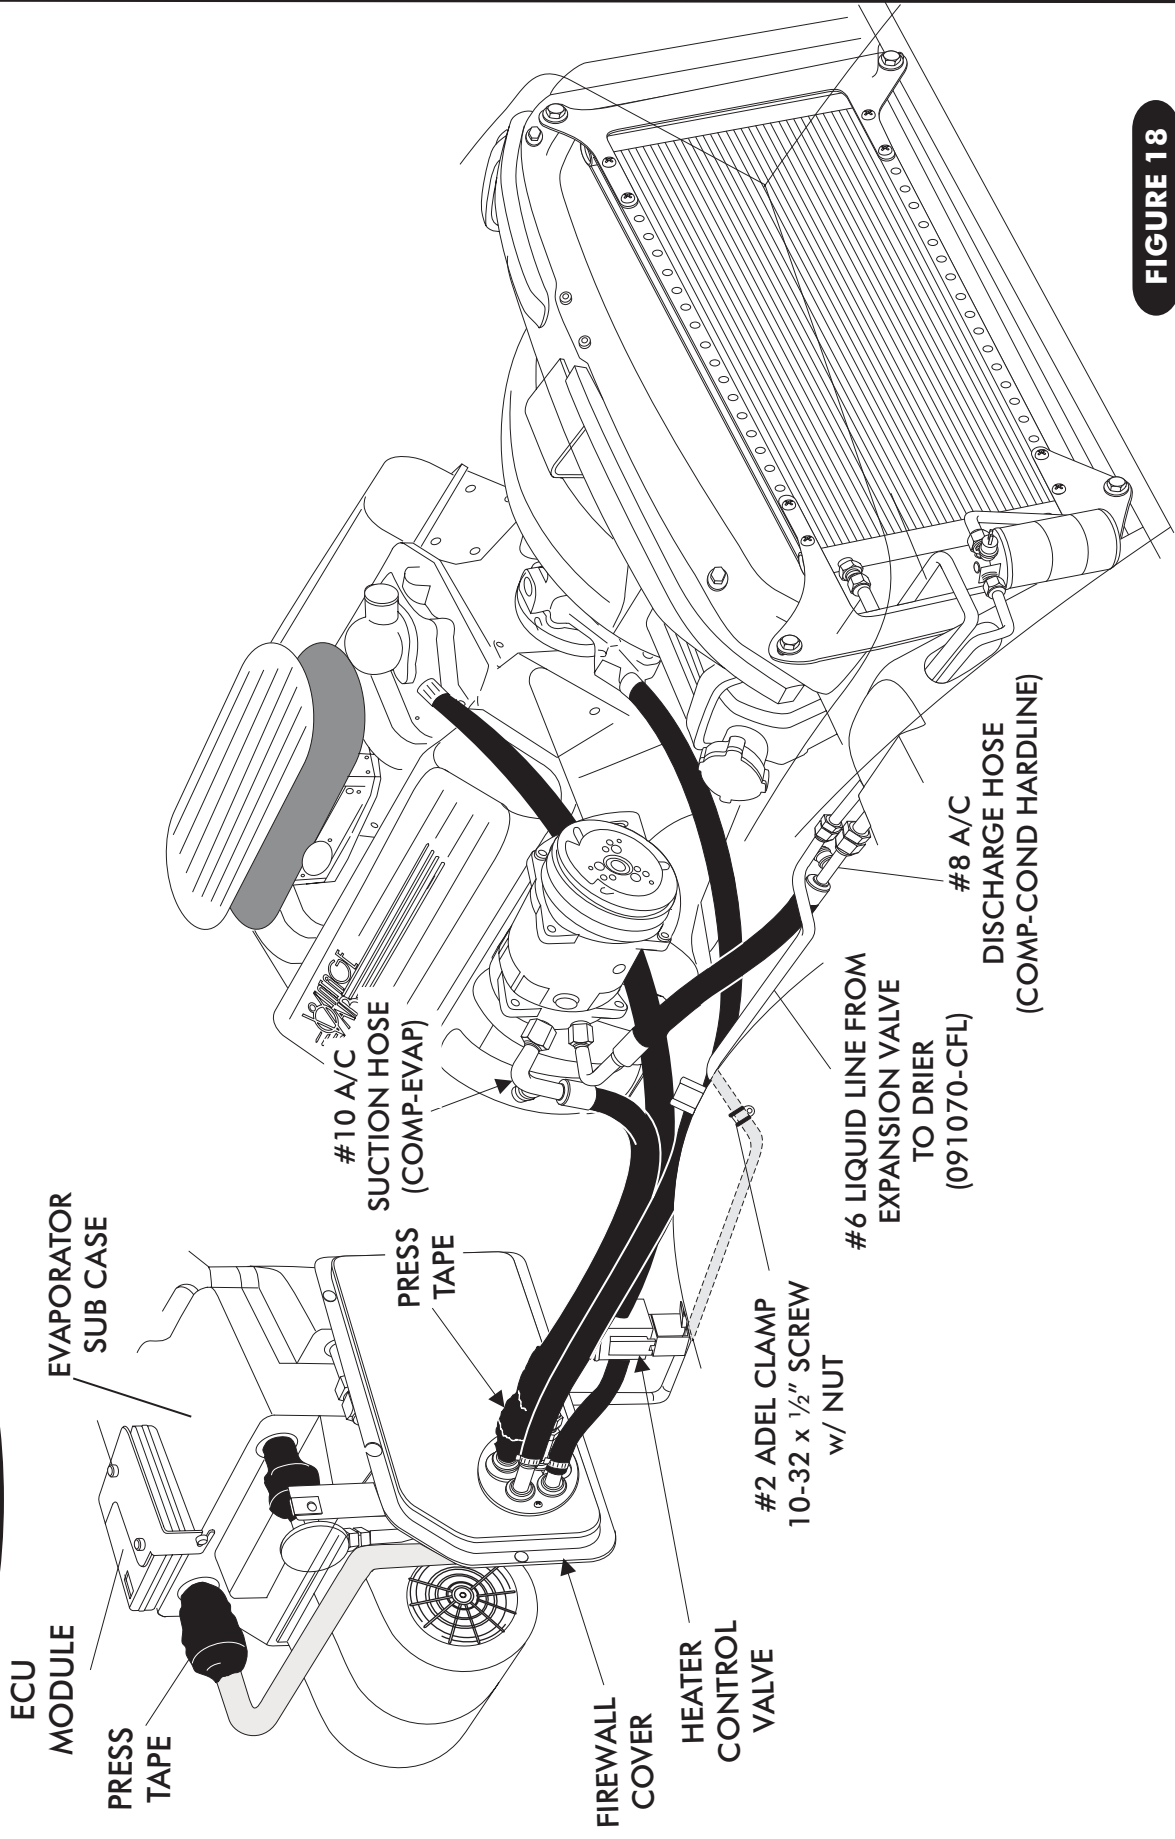
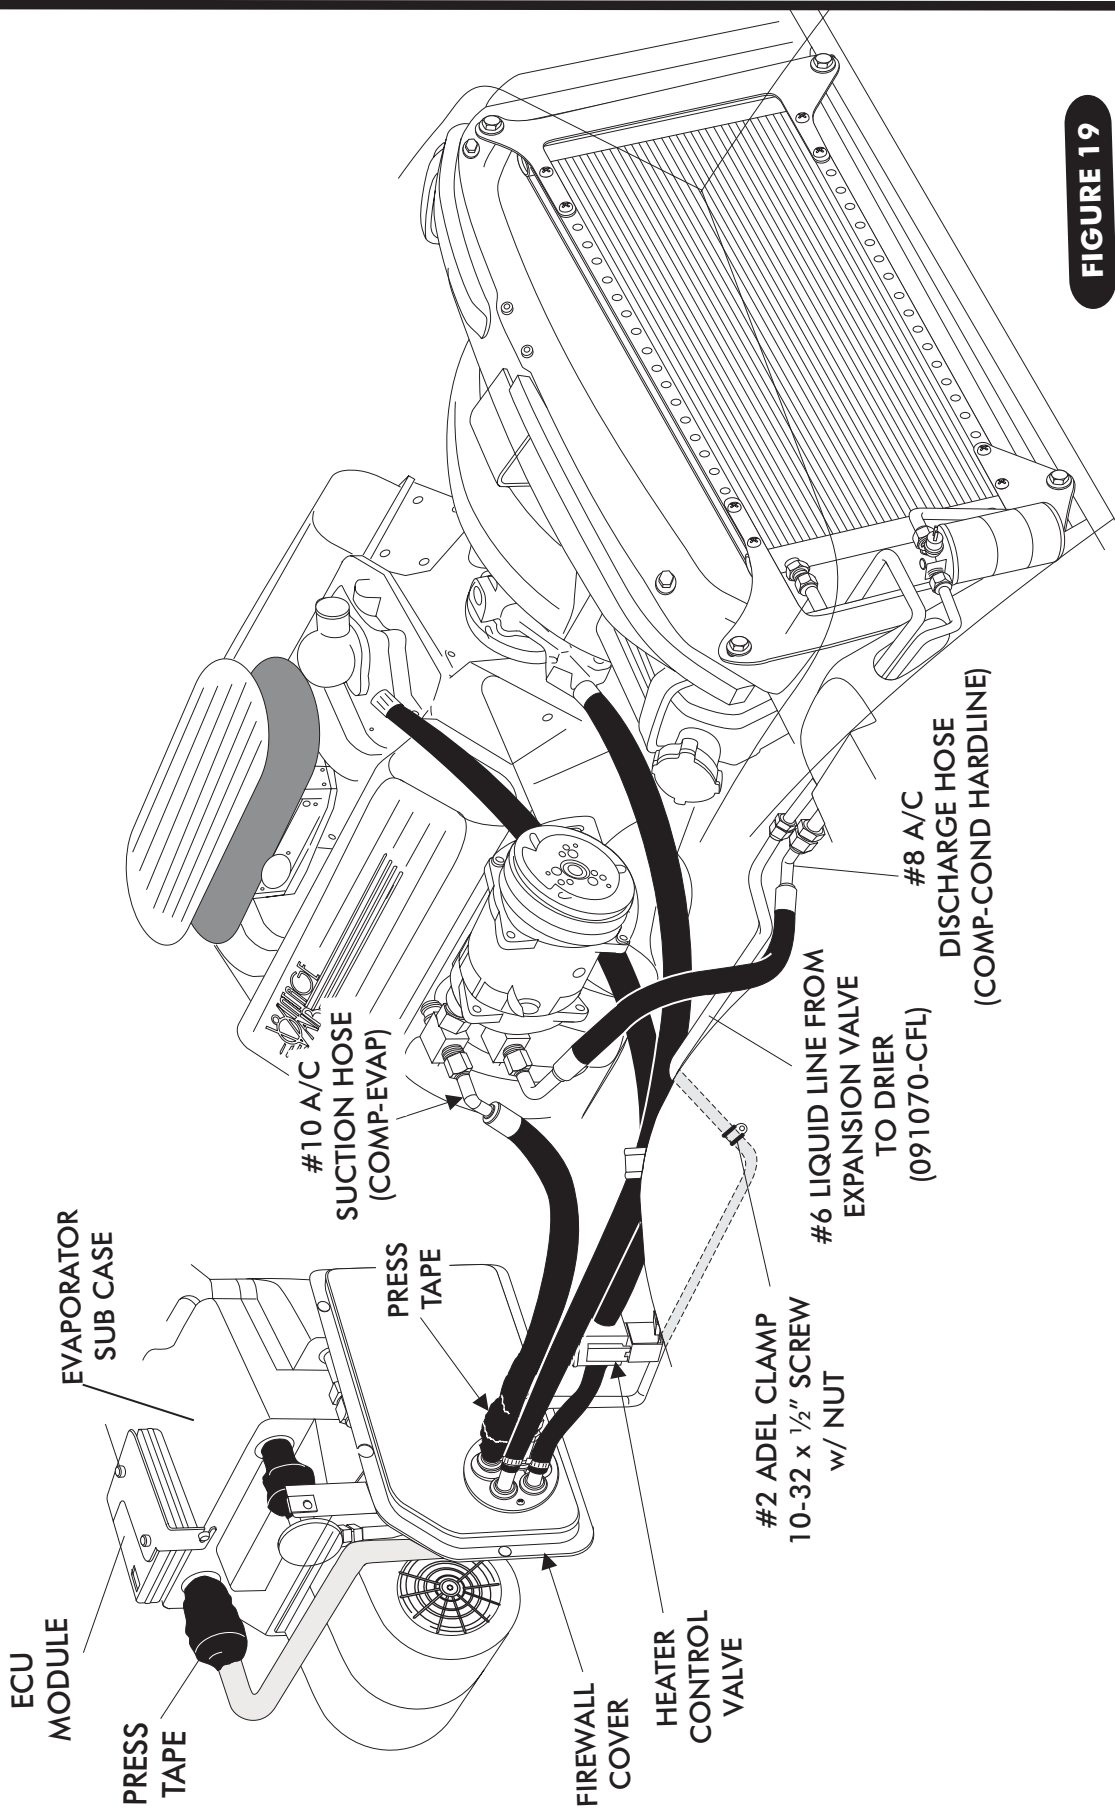

FIGURE 18
FIGURE 19
- ❑ LOCATE THE #8 COMPRESSOR A/C HOSE. LUBRICATE (2) #8 O-RINGS (SEE FIGURE 16 BELOW) AND CONNECT THE 90° FITTING TO THE #8 DISCHARGE PORT ON THE COMPRESSOR AND ROUTE THE STRAIGHT FITTING TO THE #8 CONDENSER HARDLINE COMING THROUGH THE CORE SUPPORT SEE FIGURE 18, PAGE 18. TIGHTEN EACH FITTING CONNECTION AS SHOWN IN FIGURE 17 BELOW.
- ❑ LOCATE THE #10 COMPRESSOR A/C HOSE. LUBRICATE (2) #10 O-RINGS (SEE FIGURE 16 BELOW) AND CONNECT THE 135° FITTING TO THE #10 SUCTION PORT ON THE COMPRESSOR AND ROUTE THE STRAIGHT FITTING TO THE #10 EVAPORATOR HARDLINE COMING THROUGH THE FIREWALL SEE FIGURE 18, PAGE 18. TIGHTEN EACH FITTING CONNECTION AS SHOWN IN FIGURE 17 BELOW. **(NOTE: WRAP THE #10 FITTING CONNECTIONS AT FIREWALL WITH PRESS TAPE. SEE FIGURE 18, PAGE 18.)**
- ❑ LOCATE THE #8 COMPRESSOR A/C HOSE. LUBRICATE (2) #8 O-RINGS (SEE FIGURE 16 BELOW) AND CONNECT THE 90° FITTING TO THE #8 DISCHARGE PORT ON THE COMPRESSOR AND ROUTE THE STRAIGHT FITTING TO THE #8 CONDENSER HARDLINE COMING THROUGH THE CORE SUPPORT SEE FIGURE 19, PAGE 19. TIGHTEN EACH FITTING CONNECTION AS SHOWN IN FIGURE 17 BELOW.
- ❑ LOCATE THE #10 COMPRESSOR A/C HOSE. LUBRICATE (2) #10 O-RINGS (SEE FIGURE 16 BELOW) AND CONNECT THE 90° FITTING TO THE #10 SUCTION PORT ON THE COMPRESSOR AND ROUTE THE STRAIGHT FITTING TO THE #10 EVAPORATOR HARDLINE COMING THROUGH THE FIREWALL SEE FIGURE 19, PAGE 19. TIGHTEN EACH FITTING CONNECTION AS SHOWN IN FIGURE 17 BELOW. **(NOTE: WRAP THE #10 FITTING CONNECTIONS AT FIREWALL WITH PRESS TAPE. SEE FIGURE 18, PAGE 18.)**